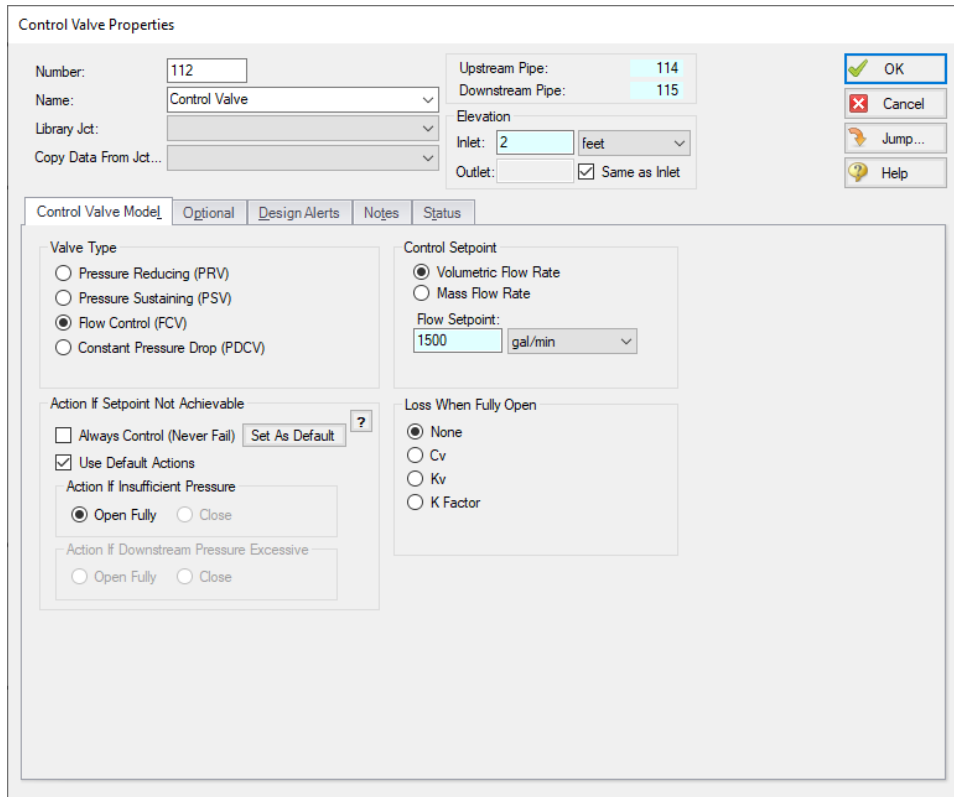

Figure 8: Flow Setpoint adjusted in the dependent design case for FCV J112
6. Change the Flow Setpoint to 1500 gal/min(Figure 8).